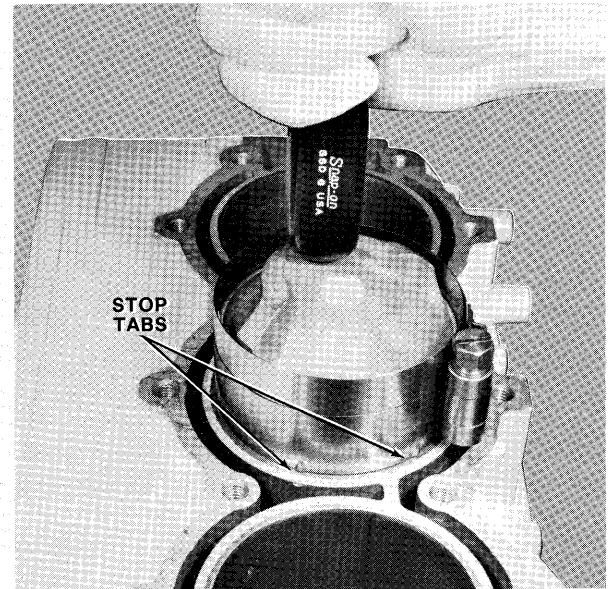

Figure 18—Installing Piston
- K. Install piston assemblies in cylinder using ring compressor (Special Tool T2996) as shown in figure 18. Position pistons in cylinder with intake baffle on piston on intake side of cylinder.